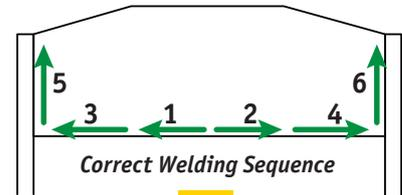

FIG. 3
- Generally a welding sequence is favoured which minimizes the restraining forces between the welded parts. This is ensured by giving the parts the freedom of movement during the welding operation Fig 3.